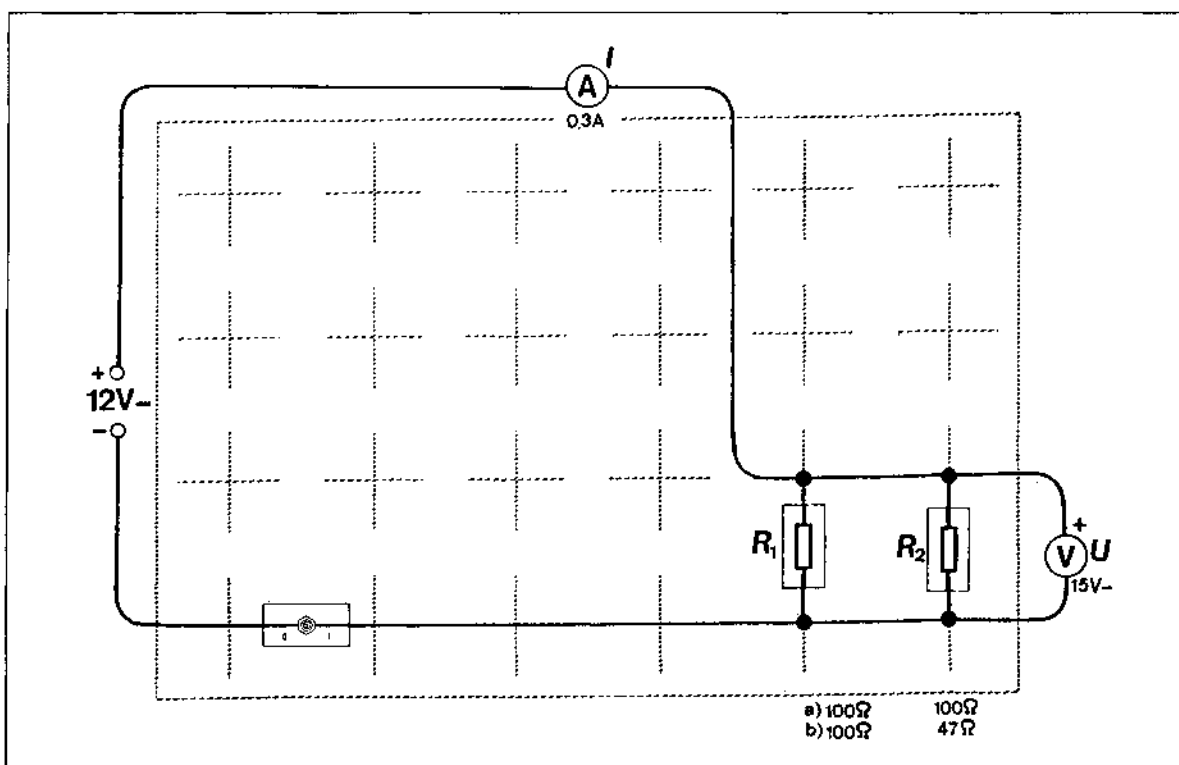

Fig. 1 Experiment setup: Connecting resistors in parallel
1. Construct the circuit shown in fig. 1. To start with, the switch is left open and the power supply unit is switched to voltage level 0.